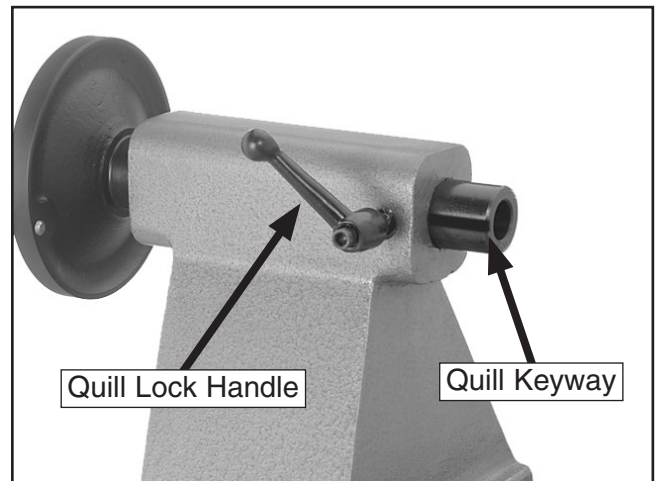

Figure 28. Quill lock handle aligned with quill keyway.
5. Make sure the center of the quill lock handle is aligned with the quill keyway (see **Figure 28**) to ensure that the tailstock center and quill will not freely rotate under load.